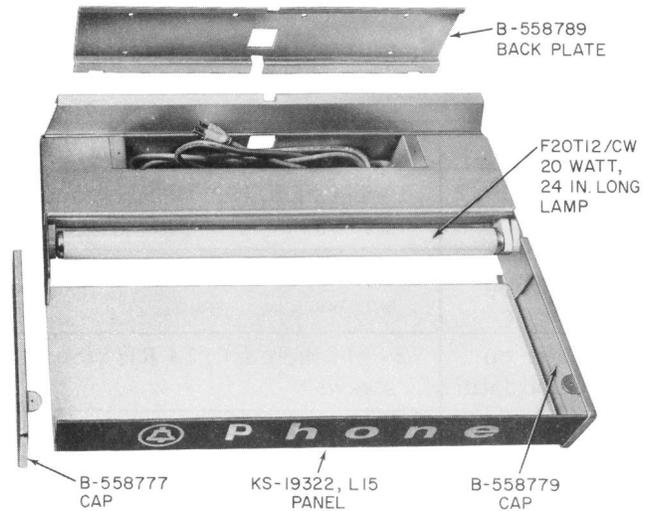
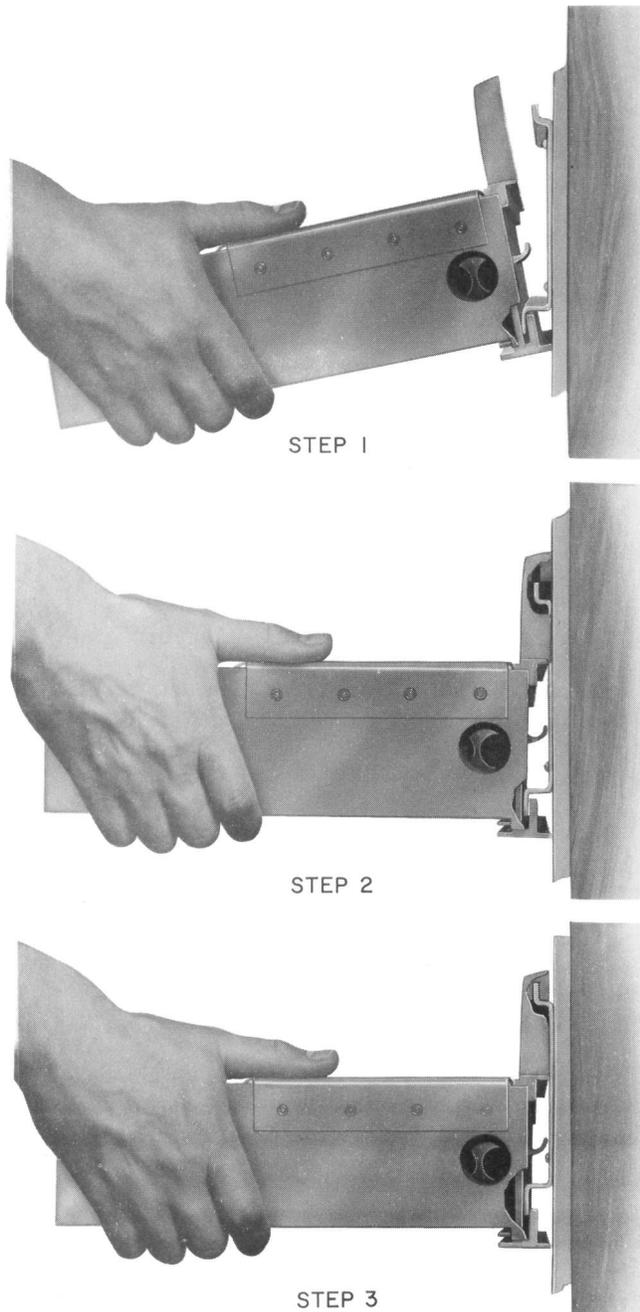
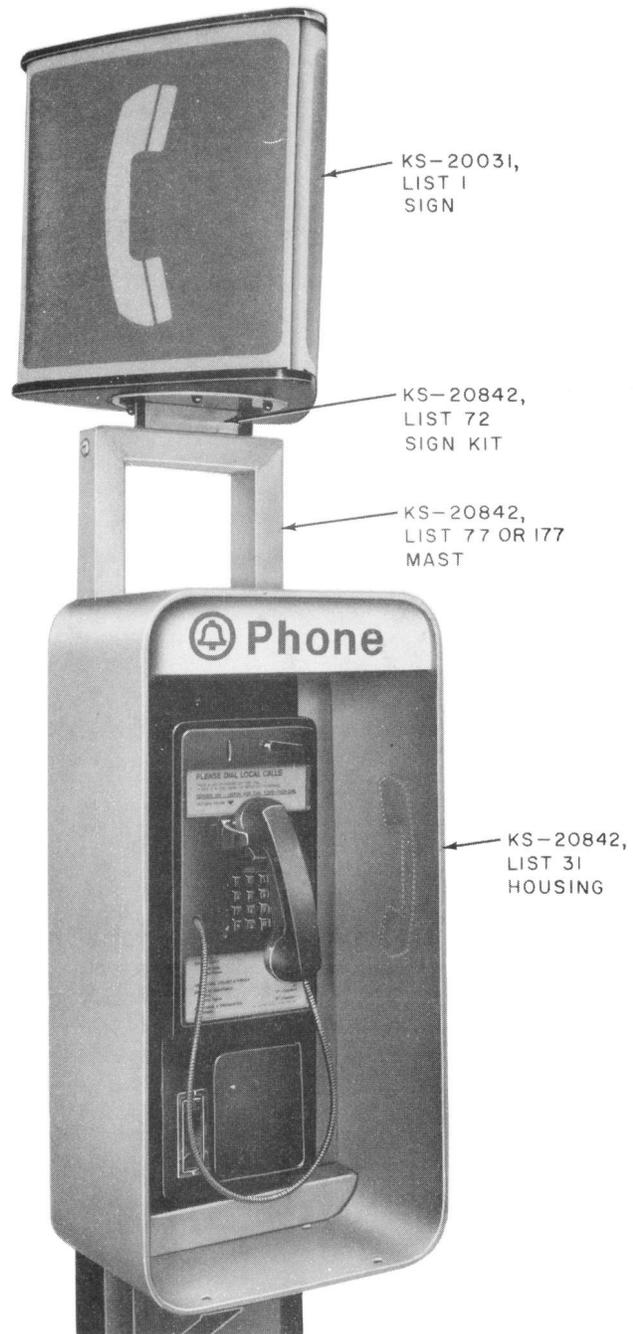

Fig. 20—Assembly of KS-19322 Sign
Fig. 21—Installation of KS-19322 Sign
**Fig. 25—Mounting Hardware for KS-20031, List 1 Sign Mounted on KS-19426, List 39, 40, or 41 (A&M Only) Mast**
**3.09** These signs are intended for use indoors over a coin telephone shelf, directory racks, and tables (Fig. 20).
(a) Remove the power cord through the hole in the rear wall of the cord storage compartment (Fig. 20).
(c) Engage lower slot of sign with lower flange of backplate (Fig. 21, Step 1).
(d) Raise sign assembly as far as possible and tilt top of sign toward wall (Fig. 21, Step 2).
(e) Allow sign to slide down, engaging upper slot and flange (Fig. 21, Step 3).
- (b) Place end caps on sign panel (Fig. 20).
**Note:** The List 2 lens assembly (Fig. 20) must be removed from the fixture assembly (Fig. 21) before installation.
- (1) Remove four cap nuts which secure lens to base.
- (2) Remove four 1/4-20 by 5/8-inch Phillips RHM screws from top edge of mast.
- (3) Install fixture assembly to mast using the four 1/4-20 by 5/8-inch screws (Fig. 21).
- (4) Have local electrician connect the fixture to junction box below KS-19426 housing with No. 12 AWG wire. Connections should conform to connections of the housing fluorescent lamp, ie; if housing lamp is controlled by a light control unit, the sign lamp should be controlled by the same unit.
- (5) Install lamp in fixture.
- (6) Install List 2 lens assembly over fixture and secure with the four cap nuts removed in (1) (Fig. 25).